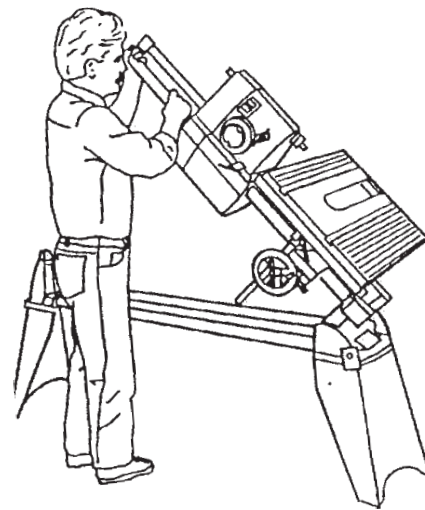

Figure B-46
6. Tighten the headstock and carriage locks. Place the Mark V in the vertical position by loosening the headrest handle (15), firmly grasping the way tubes (20) near the headrest end, and lifting the tubes into the 90° position, as demonstrated in Figure B-46.